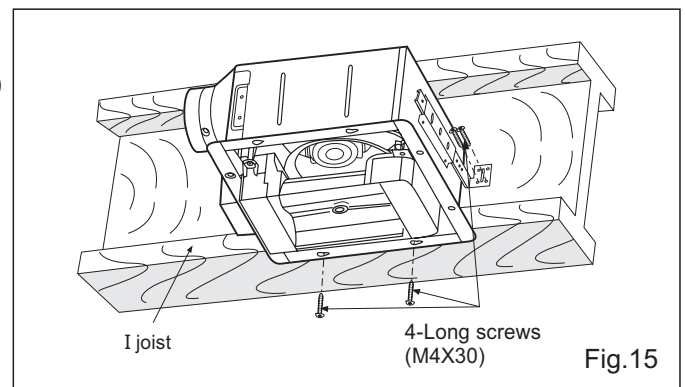

Fig.15
3. Connect the ventilating fan to the I-joist. (Fig.15)